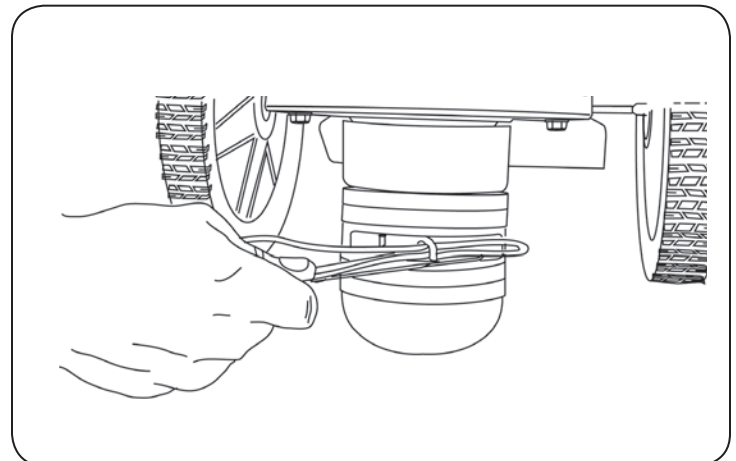

Figure 11
3. Pull the ends of the cord under the loop and push the loop up into the line cord ends plate groove above them (see Figure 11) and then pull the ends tight.